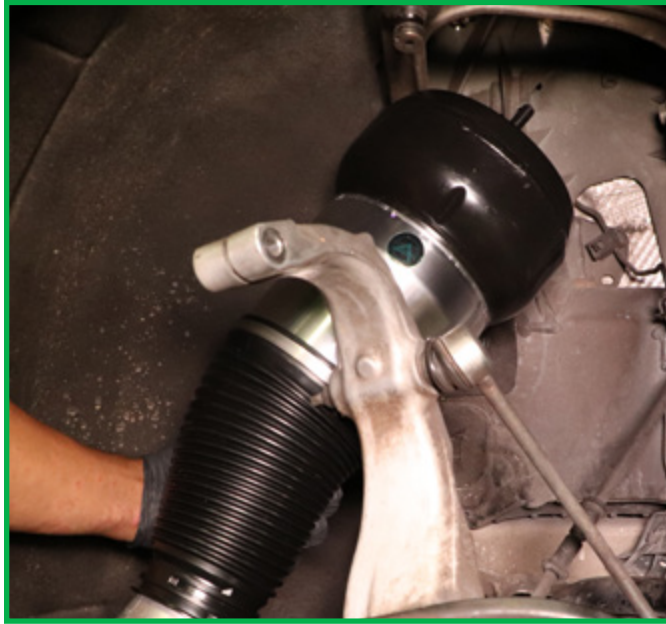

FIGURE 19
2. Install the arnott strut in the vehicle. (Figure 19)